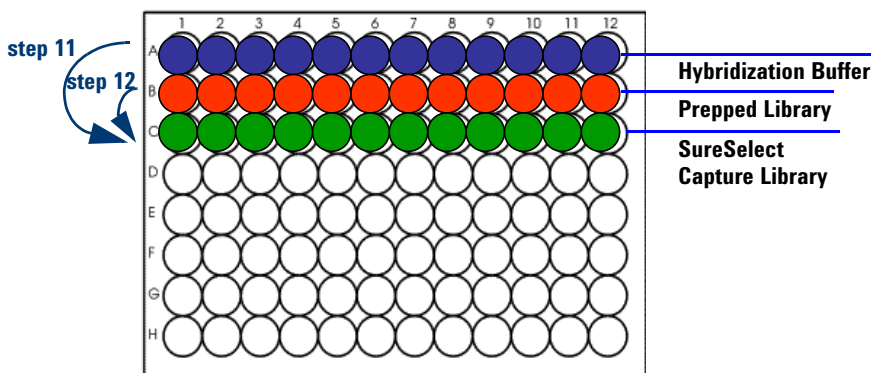

Figure 7 SureSelect Capture Library, or “Baits”, shown in Green
- 11** Maintain the plate at 65°C while you use a multi-channel pipette to take 13 μL of Hybridization Buffer from the “A” row and add it to the SureSelect capture library mix contained in row “C” of the PCR plate for each sample. (See Figure 7.)
- 12** Maintain the plate at 65°C while you use a multi-channel pipette to transfer the entire contents of each prepped library mix in row “B” to the hybridization solution in row “C”. (See Figure 7.) Mix well by slowly pipetting up and down 8 to 10 times.